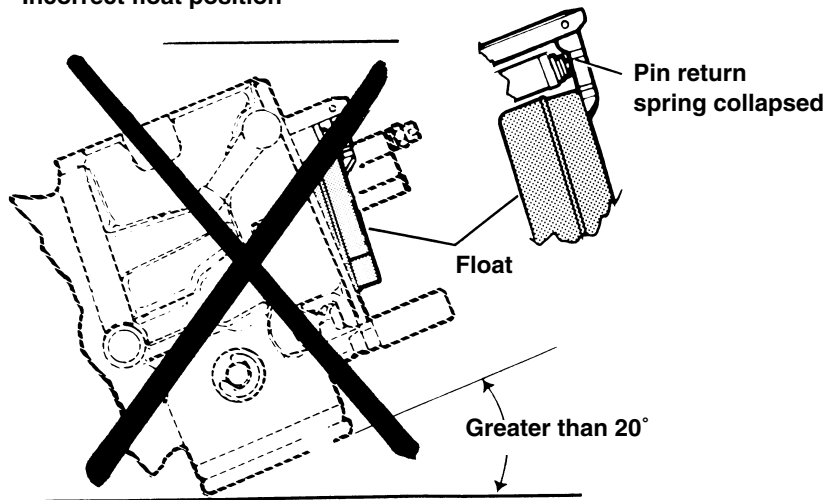

Figure 4-4. Carburetor Float Adjustment
1. See Figure 4-4. Place carburetor on a flat, clean surface on engine manifold side. This is the “base.” Tilt carburetor counterclockwise 15° to 20° from base until float comes to rest.